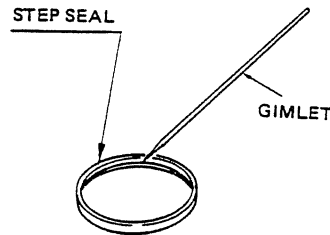

Fig. 5-31
- (3) Remove the step seal out of the inside of the cylinder head by hooking up with a gimlet. (See Fig. 5-31)